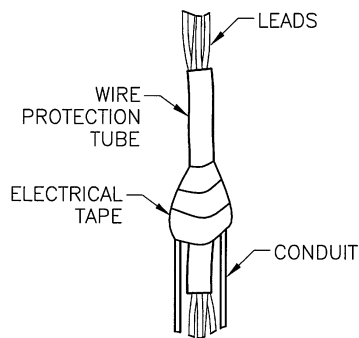

Figure 6
6. To help prevent damaging wires during installation, fit the wire protection tube provided in the Electrical Fitting Kit over wires and half way into conduit (temporarily secure with adhesive tape). See Figure 6
7. Carefully guide free ends of motor leads through discharge riser and out through the 1" (F) NPT port.